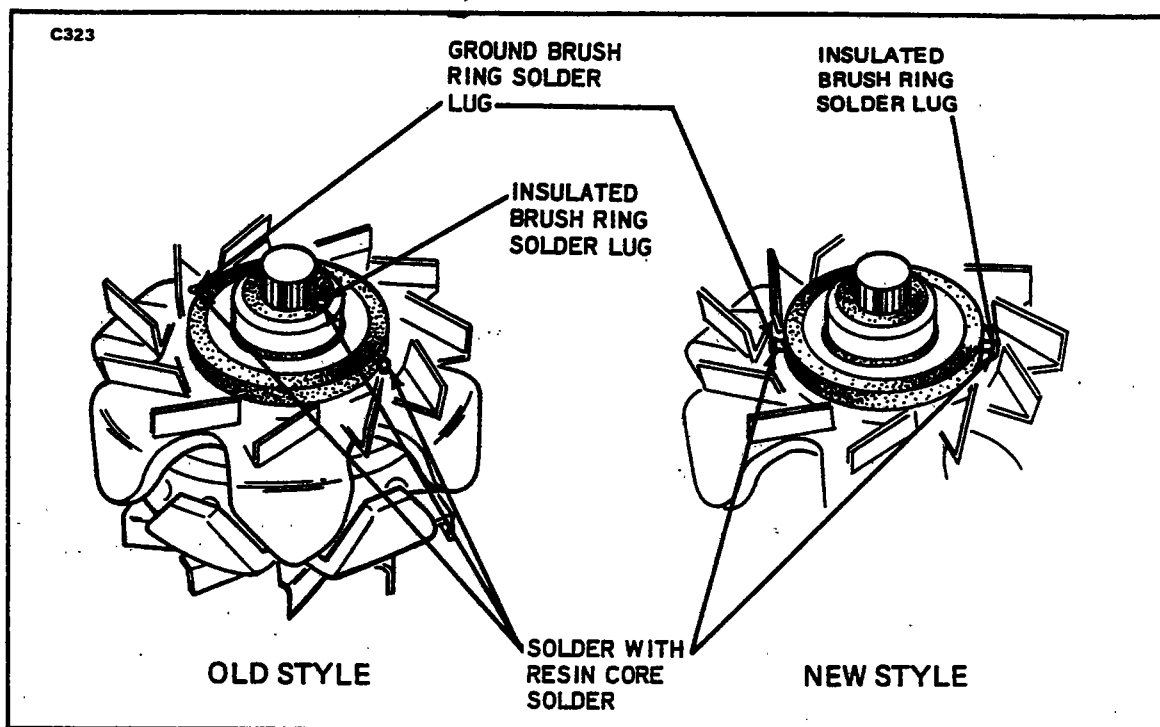

Figure 11-36. Solder Points
8. Unsolder the guide wire from the insulated slip ring lead. Press the field lead into the solder lug and solder to lug with rosin core solder. (Refer to Figure 11-36.) Solder securely but do not leave an excessive blob of solder on rotors equipped with grease retainer.
b. New Style (Refer to Figure 11-36):